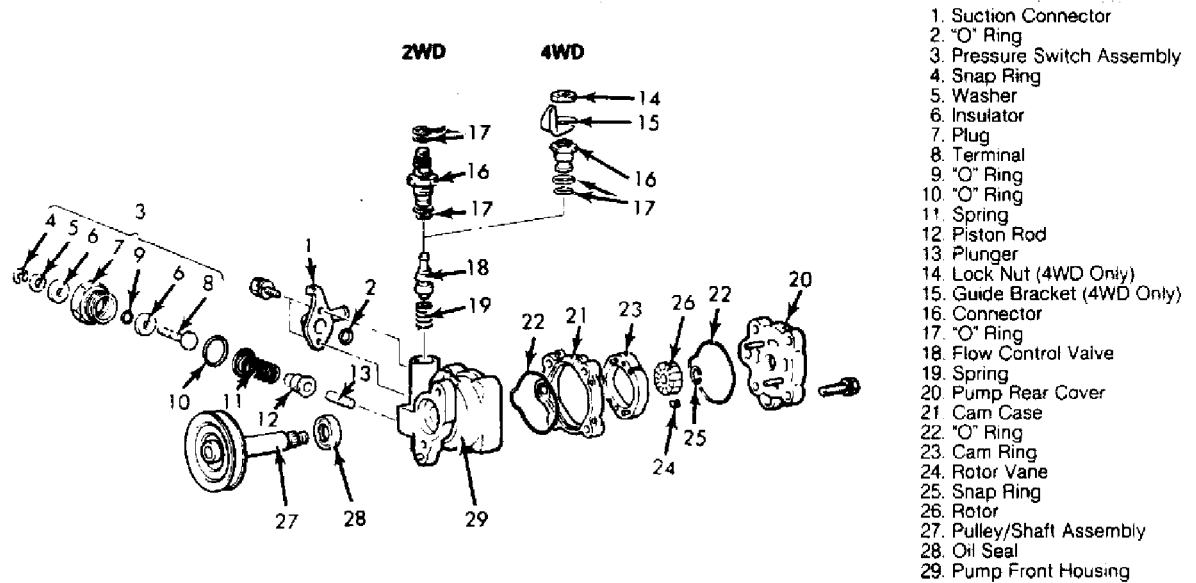

Fig. 3: Exploded View Of Power Steering Pump (Typical)
1) Remove pump rear cover, cam ring, "O" rings and vanes from rotor. See Fig. 3. Remove snap ring from pulley assembly. Remove rotor.